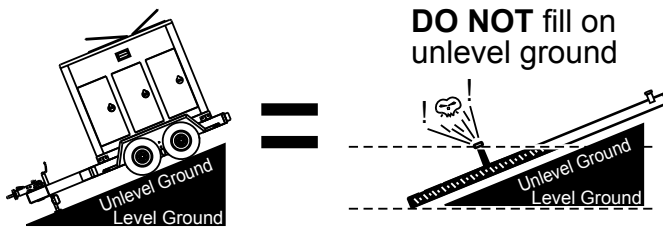

Figure 12. Only Fill on Level Ground
1. Place the generator level with the ground. Failure to do so will cause fuel to spill from the tank before reaching full capacity (Figure 12).